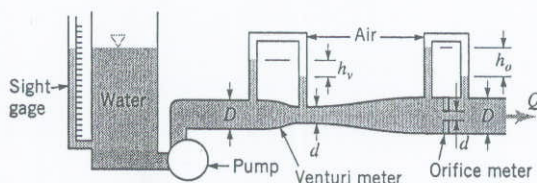

FIGURE P8.127
**Objective:** Because of various real-world, nonideal conditions, neither orifice meters nor Venturi meters operate exactly as predicted by a simple theoretical analysis. The purpose of this experiment is to use the device shown in Fig. P8.127 to calibrate an orifice meter and a Venturi meter.